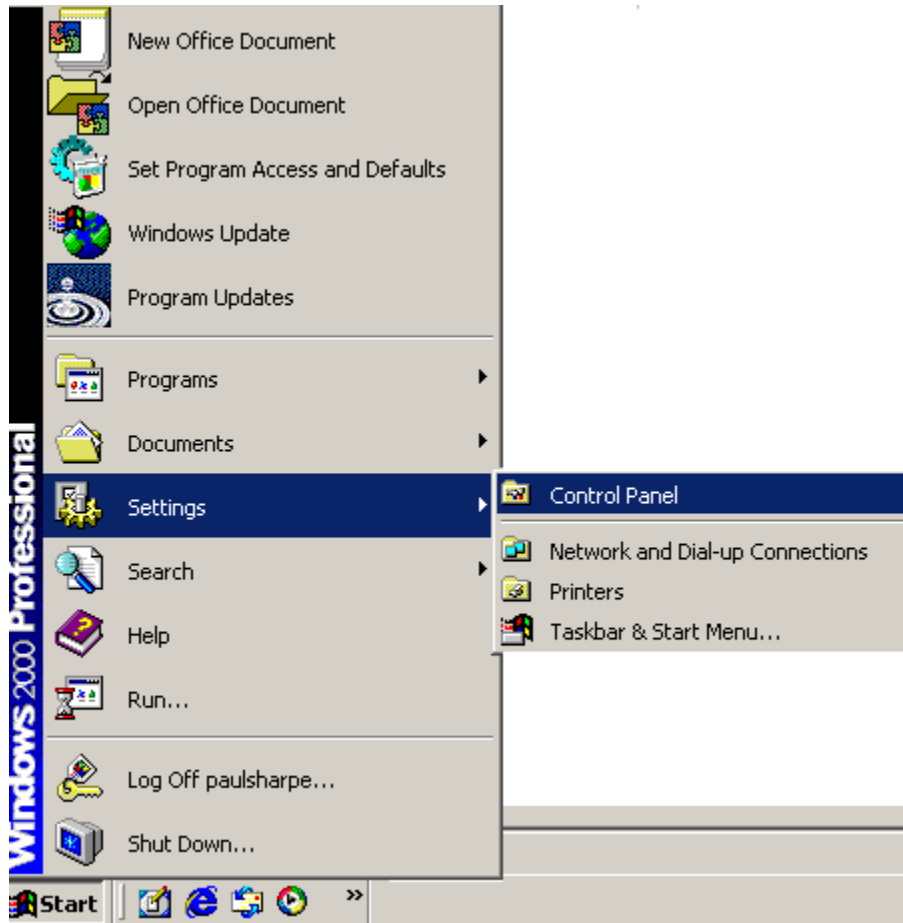

Figure 7-12: Access Windows Control Panel
Step 1: Open **Windows Control Panel (Figure 7-12)**.